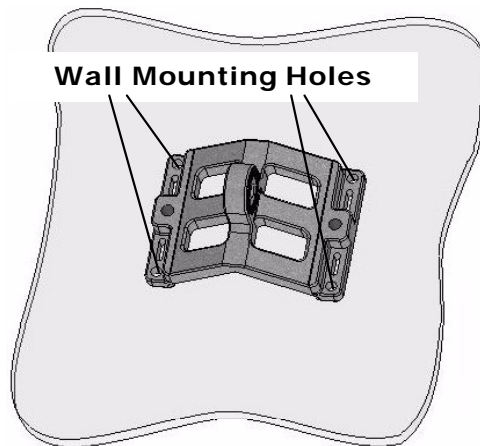

Figure 3: Bracket Wall Mounting
- a) Fasten the wall/poll bracket [A] to the wall using four 3/16" (5mm) bolts, as shown in Figure 3. Use the appropriate bolts and fasteners, which is dependent on the material of the wall. Wall-mounting bolts and fasteners are not supplied with the mounting kit.